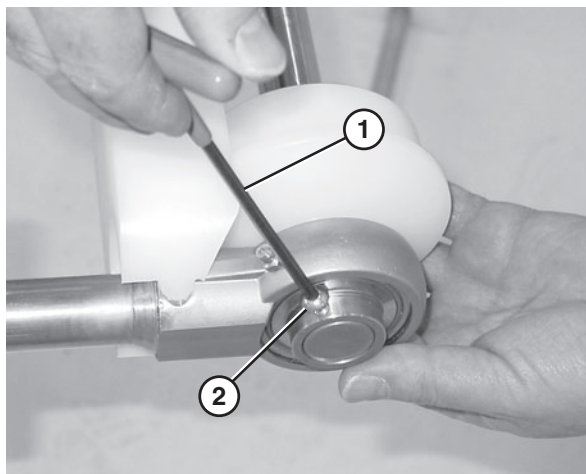

Figure 89
5. Use a hex wrench (**Figure 89, item 1**) to tighten the bearing shaft fasteners (**Figure 89, item 2**).